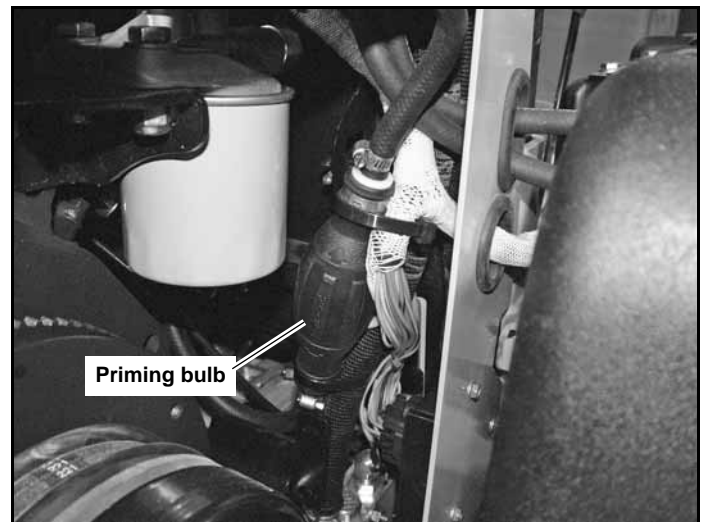

Figure 4-6
3. Take the priming bulb and compress it until it becomes firm. Figure 4-6